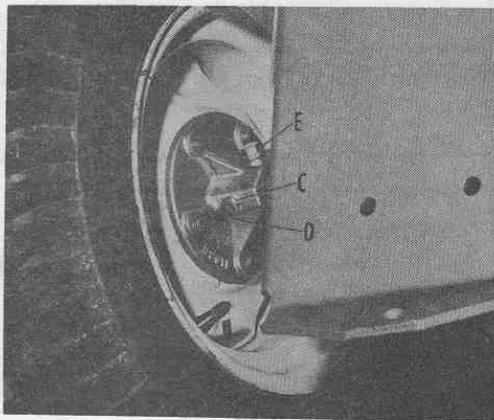

FIG. 20
2. Refer to Fig. 20. Adjust wheels on axle by loosening jam nut (C), on set screw (D), and then set screw. Also loosen hex bolt (E). Slide wheel in or out on axle as required for attachment, see chart on page 13. Retighten items (C, D, and E) securely.